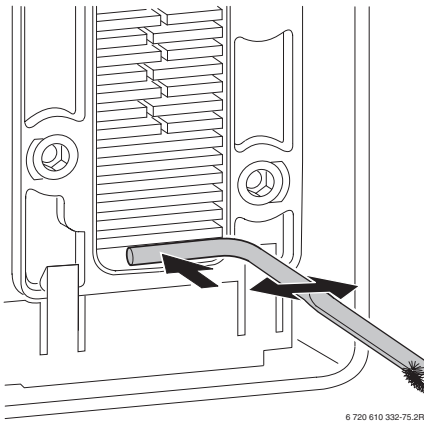

Fig. 55
- ▶ Flush the heat exchanger from the top. Refer to fig. 55.